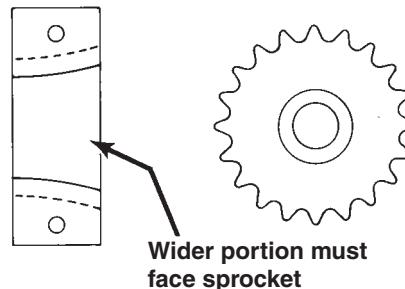
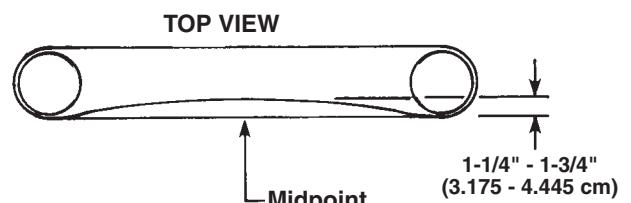
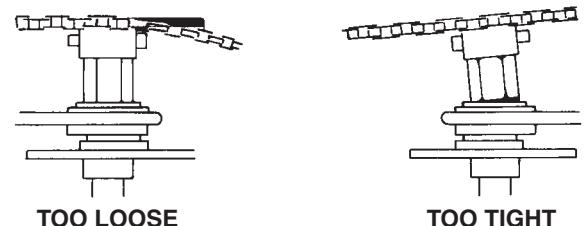

FIGURE 12
FIGURE 13
FIGURE 14
2. **Chain Adjustment:** See Figure 12. The wider portion of the chain guide must face the sprocket. The press must be square to align the chain sprocket. See Figure 15 and Detail A. Adjust the chain guide upward so the bearing surface of the chain guide just makes contact with the bottom of the chain coming off the sprocket. See Figure 13. Adjust chain tension until 8-12 lbs. (3.63-5.45 kg) of side force produces 1-1/4 to 1-3/4 inches (31.75 to 44.45 mm) of deflection at midpoint. See Figure 14 and Detail A. Tighten or loosen both sides evenly to keep the lift screws in line with the bolster brackets as much as possible. Too much tension can cause the bolster chain sprocket to bend inward; not enough tension lets the chain go slack and out of alignment. The nut must be tight against the sprocket hub. See Detail A.